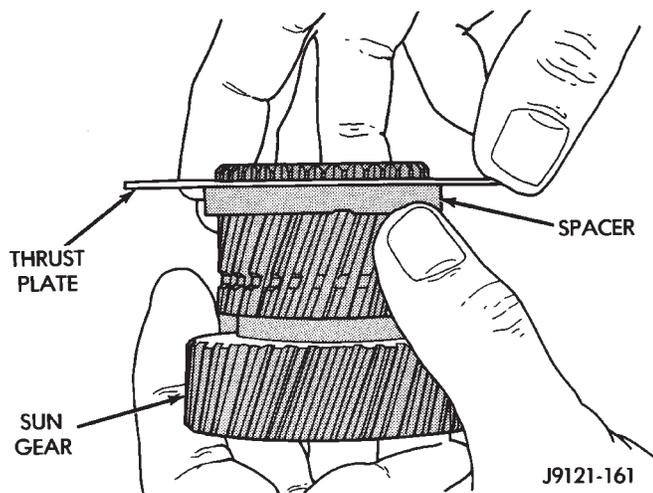

Fig. 196 Installing Driving Shell Front Thrust Plate On Sun Gear
(8) Install thrust plate on sun gear (Fig. 196). Note that driving shell thrust plates are interchangeable. Use either plate on sun gear and at front/rear of shell.